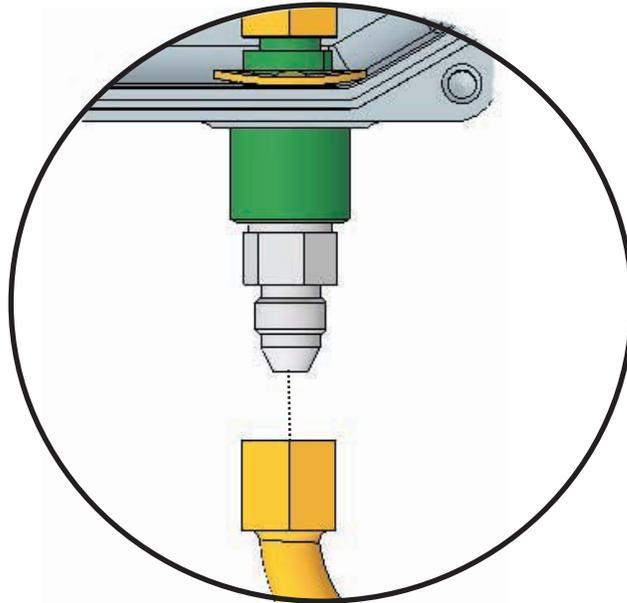

Figure 4-58. Fitting on Outside of Universal Control Head
8. After ensuring there is no leakage, loosen the swivel fitting located at the bottom right side of the Universal Control Head (see Figure 4-58). Allow the pressure to vent slowly. When the pressure is completely vented, disconnect the fitting and remove the cover.
- Secure the High Pressure Nitrogen Tubing back onto the bottom of the Universal Control Head. Ensure that the fit is properly snug to prevent leakage. Refer to Figure 4-58.